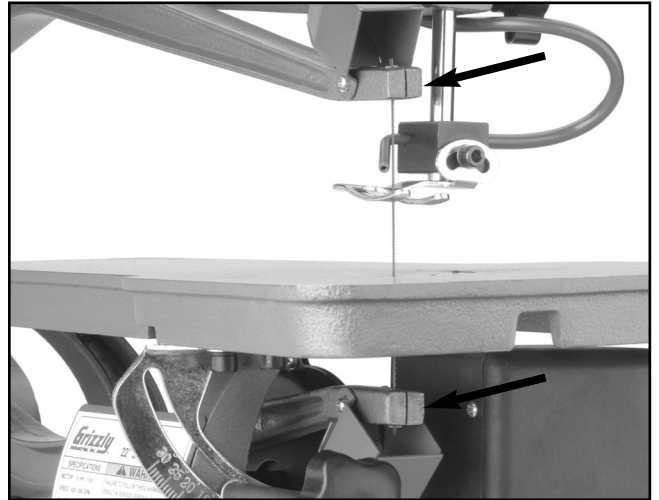

Figure 11. Blade attached to both holders.
5. Feed the new blade through the table and hook it into the lower blade holder as shown in **Figure 11**. The teeth should face forward and down.